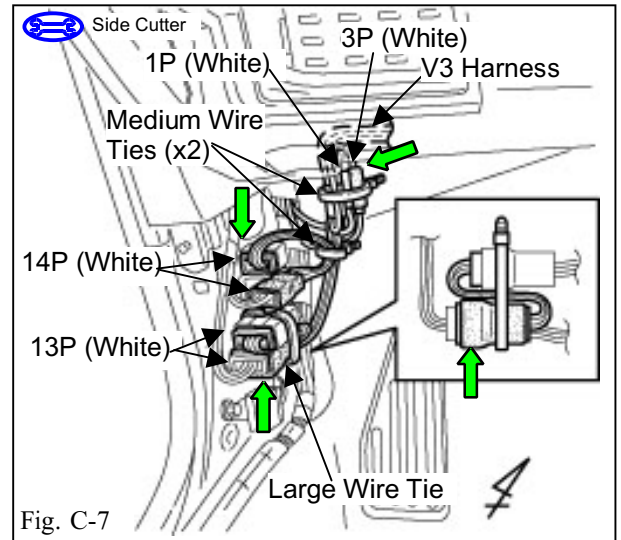

Fig. C-7
13. Secure the vehicle harness' white 3P diode connector and V3 Harness' white 1P connector to the vehicle harness using one medium wire tie. (Fig. C-7)
14. Secure the 13P connectors and V3 harness to the connector box with one large wire tie. (Fig. C-7)
15. Secure the V3 harness to the vehicle harness with one medium wire tie. (Fig. C 7)